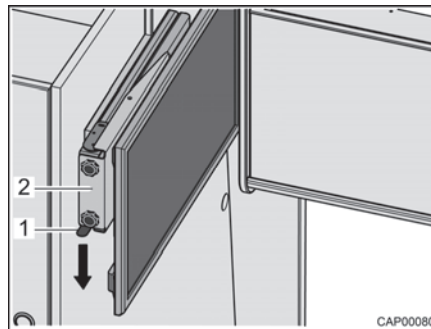

Fig. 69 Pull-out with flat screen
- Press catch spring (Fig. 69,1) downwards and pull pull-out (Fig. 69,2) with flat screen out horizontally towards the centre of the vehicle.
- Push the pull-out (Fig. 69,2) with flat screen in horizontally as far as it will go. The catch spring (Fig. 69,1) engages audibly.